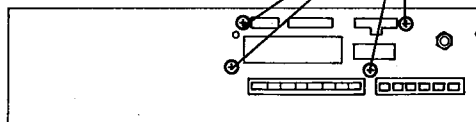

Figure 3
- (2) Remove knobs and screws as shown in Figure 3.